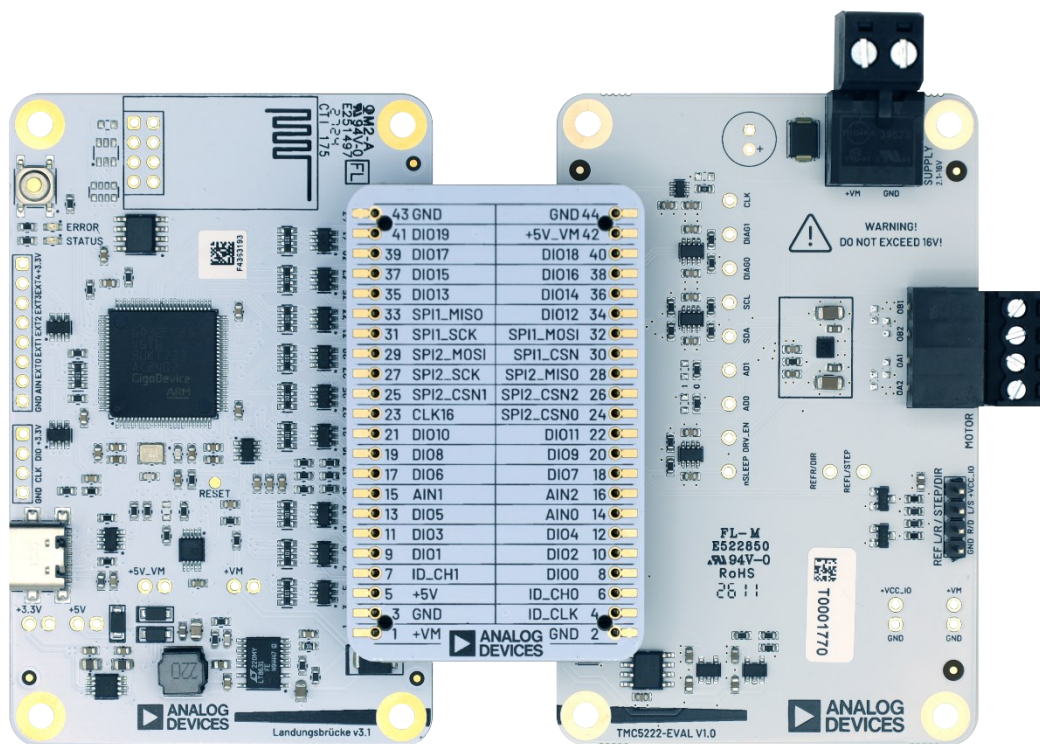

Figure 1. Assembled TMC5222-EVKIT
1. Interface the TMC5222-EVAL with the Landungsbruecke board through the Eselsbruecke bridge board as shown in Figure 1. Before connecting the boards together, ensure both the Landungsbruecke and the TMC5222-EVAL are not powered. Make sure that every pin in the connector is connected to its corresponding header. The working area is nonconductive to prevent shorting of pins on the backside of the boards.